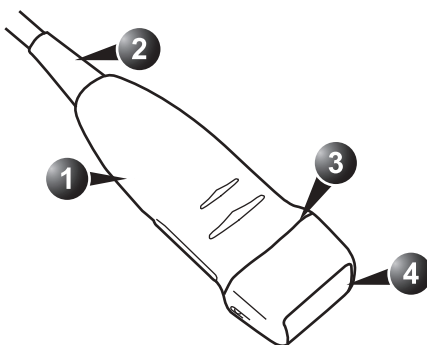

Figure 12-5. Probe parts
1. Inspect the lens, the probe housing and the cable (Figure 12-5) for cracks, cuts, tears, and other signs of physical damage.